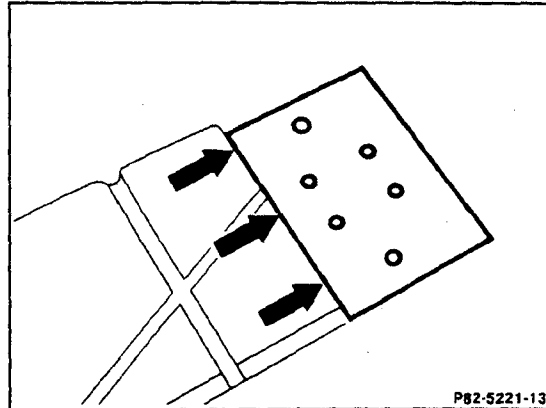

Figure 9
2. Cut and remove styrofoam, up to the horizontal chamfer (arrows, Figure 9), from underside of carpeting. Remove material from lip around the underside of carpeting so reinforcing plate can sit flat.
3. Place reinforcing plate on back of carpeting (Figure 9).